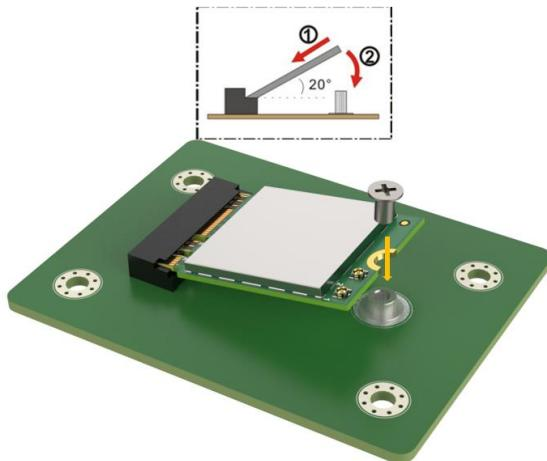

Figure 3-8: Inserting the WLAN Module
Step 5: Insert into the socket at an angle. Line up the notch on the WLAN module with the notch on the slot. Slide the WLAN module into the slot at an angle of about 20° (**Figure 3-8**).